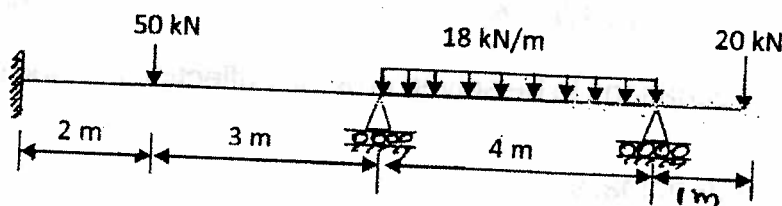

Fig. 2
- 11. Analyse the continuous beam shown in fig. 2, using slope-deflection method and draw the shear force diagram. Assume EI is same for all spans.